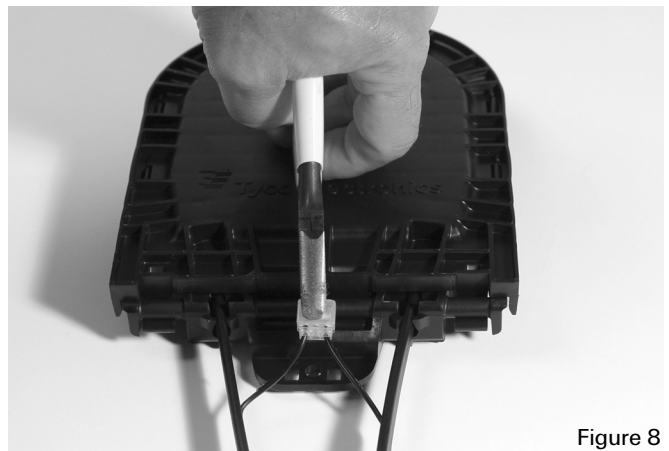

Figure 8
11. If applicable, reconnect the toning wires outside of the Gator closure using the provided Tel-Splice connector (Figure 8), or per locally approved practices.